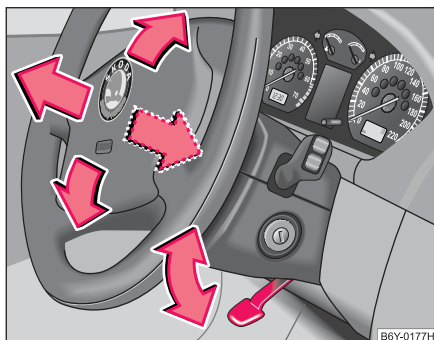

Fig. 82 Adjustable steering wheel: Lever below steering column
- Pull the lever below the steering column ⇒ fig. 82 down ⇒ ⚠.